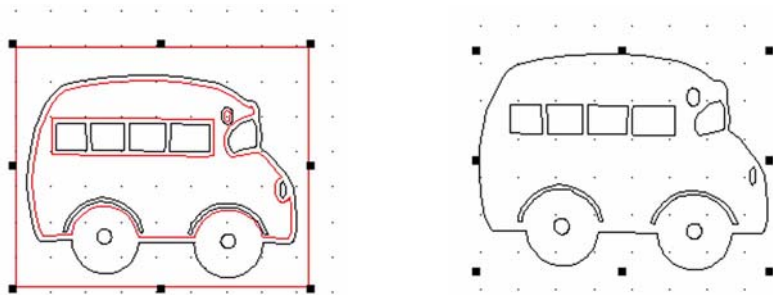

Figure 114
- 3 Delete unwanted lines. Select a line by clicking on it with the **Select Elements** tool and then press `DELETE`. See figure 114. The image on the left shows unwanted lines in red. The image on the right shows the image after the unwanted lines are deleted.